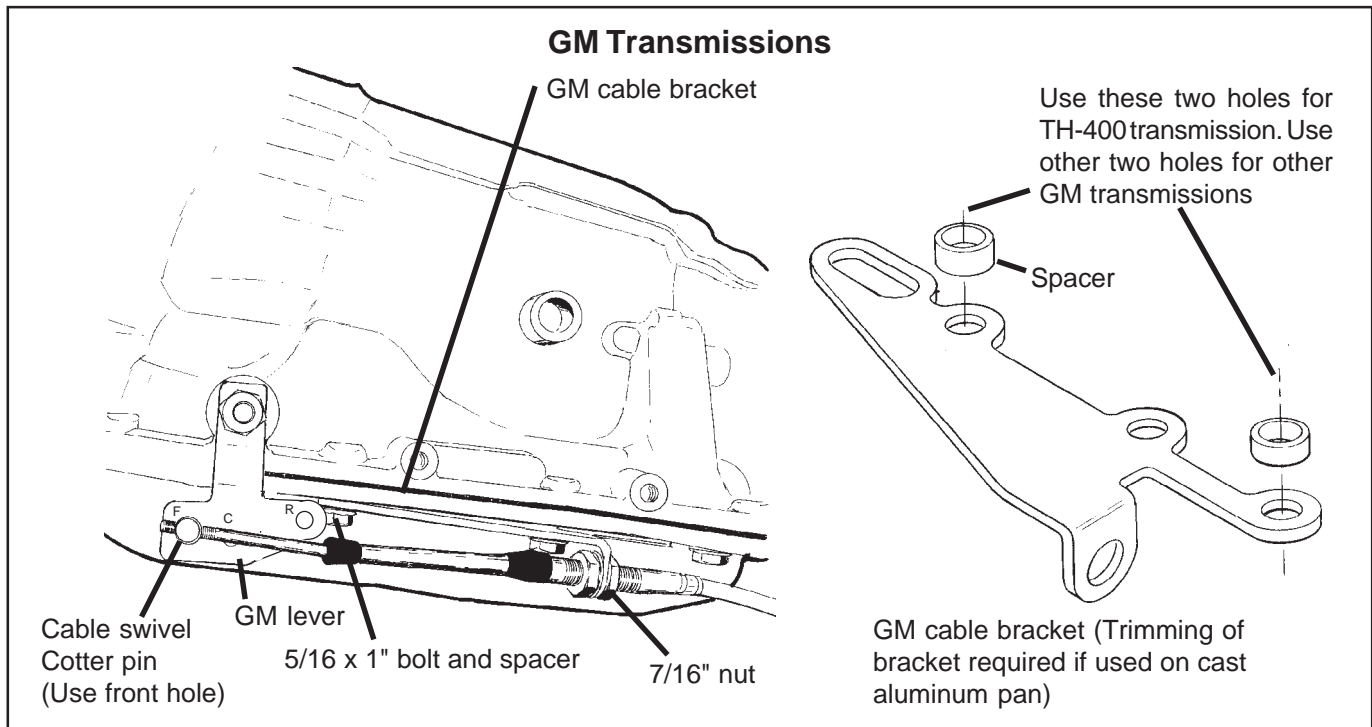

Figure 5
STEP 9. Install the **B&M** selector lever in position on the transmission using the stock selector lever nut (**See Figure 5**). Torque the nut to 23 lb.ft. The lever should move smoothly front to back with a positive click in each gear position.
in position (See Figure 5). The bracket must be installed with spacers between the pan and the bracket unless a cast aluminum pan is used. (On a TH-400 with a cast aluminum pan it will be necessary to trim the bracket.) Install the two 5/16x1" bolts supplied and tighten to 12-13 lb.ft. Do not overtighten as this can damage the pan gasket.
___ Cable is routed as shown in **Figure 5** and securely fastened to transmission and swivel is held with cotter key. **Step 12.**